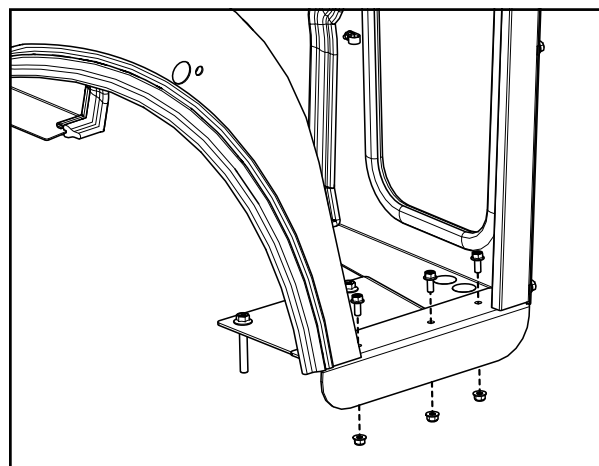

Fig. 7.4 (Right Sideframe Installation)
7.4 Fasten the floorboard to the right mounting plate and cowl with bolts and nuts — no plastic washers. See Fig. 7.4. Ensure side frame seals against the tractor fender and tighten hardware.